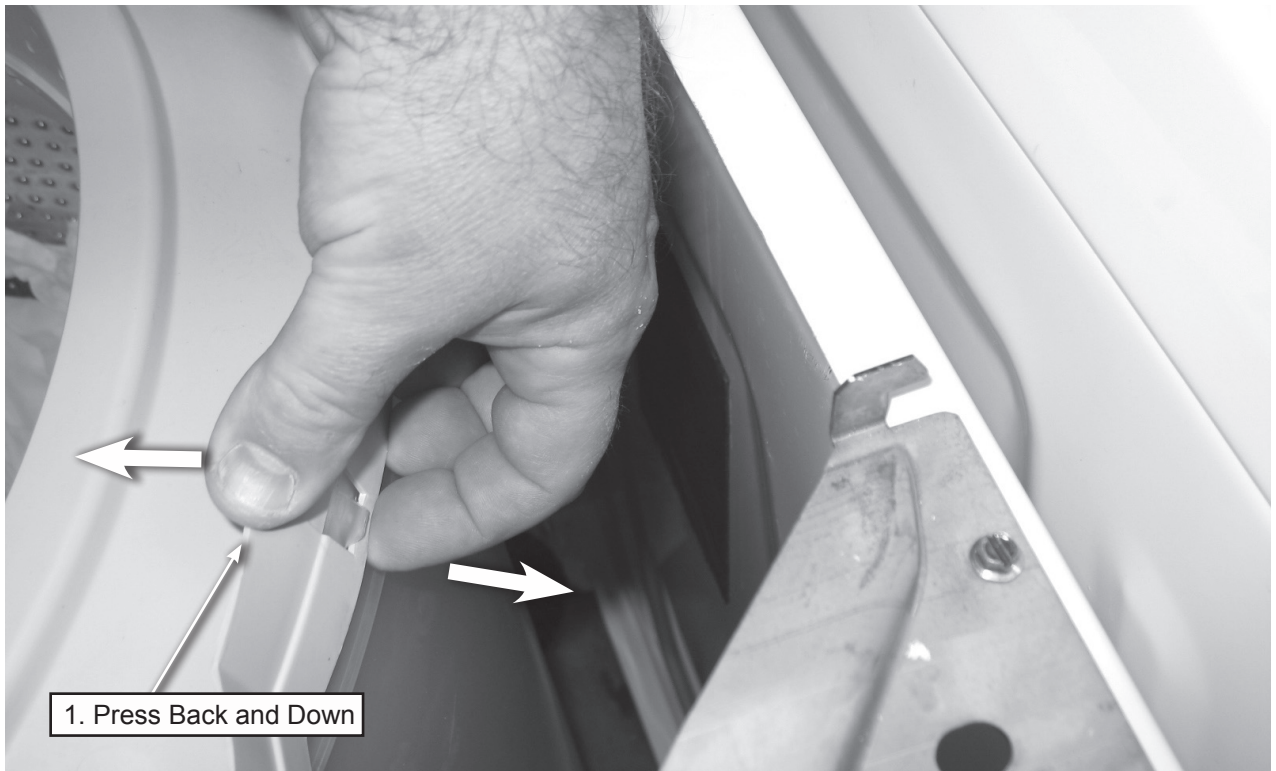

Figure 1
3. To release the tub ring from the tub; first, press press back and down on the top of the tub ring to reduce pressure on the keyed locking tab, then release the tab, see figure 1.